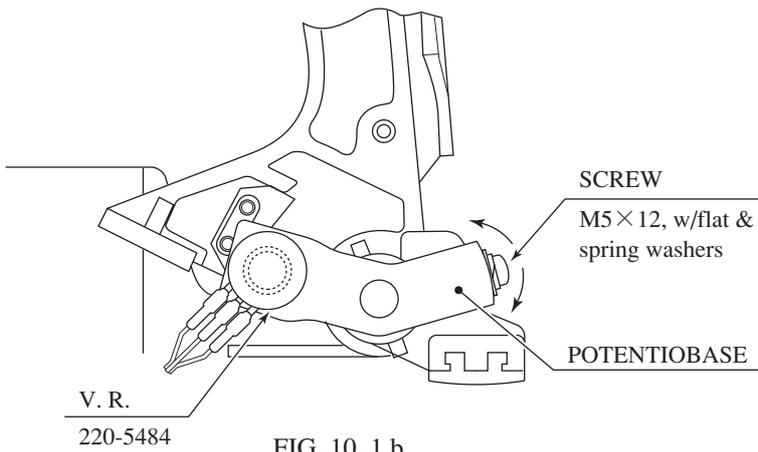

FIG. 10. 1 b
- ① Take out the 2 truss screws and remove the Front Cover from the Accel. & Brake Unit (FIG. 10. 1 a).
- ② Loosen the screw which secure the Potentiobase, and adjust the Volume value by moving the Base. (FIG. 10. 1 b)
- ③ Secure the Potentiobase.
- ④ Perform volume setting in the volume setting mode.
- ① Turn the power off.